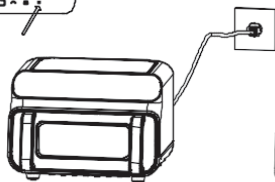

Figure 4
04. Insert the plug into the mains socket (as shown in Figure 4).